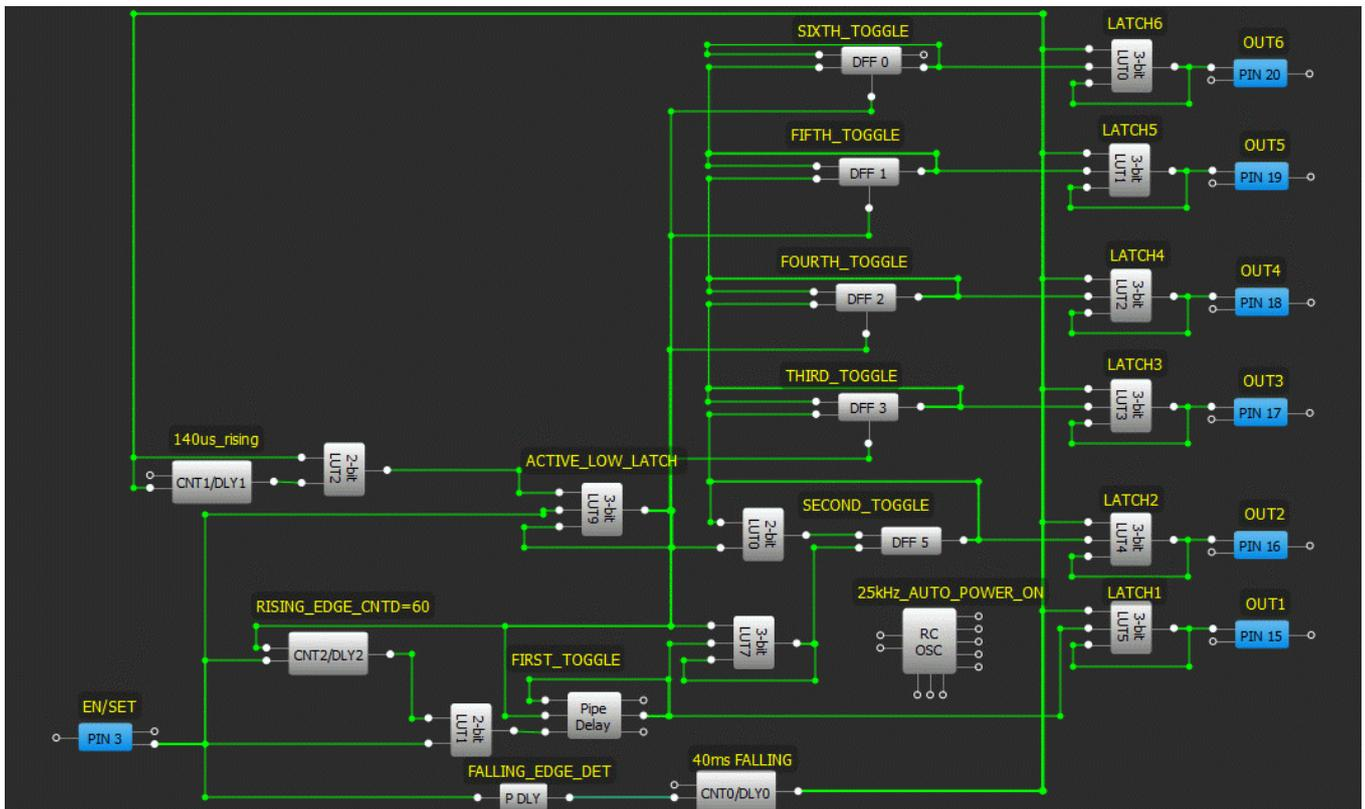

Figure 6. Single Wire circuit design
Meanwhile, each rising edge will count successively to the new truth table state (see Figure 6).
This basic design works so far, but it lacks overflow protection and can lead to data errors. To improve this design, let's add delay cell (CNT2/DLY2) with external clock connected to PIN3 (EN/SET) and input connected with 3-bit LUT9 output in order to ignore more than sixty four clocks from EN/SET (see Figure 6).
*Note: for proper operation of circuit don't forget to correctly configure input and output pins. In case of the schematic you see in Figure 6 input is configured as digital input without Schmitt trigger, and outputs as push-pull.*